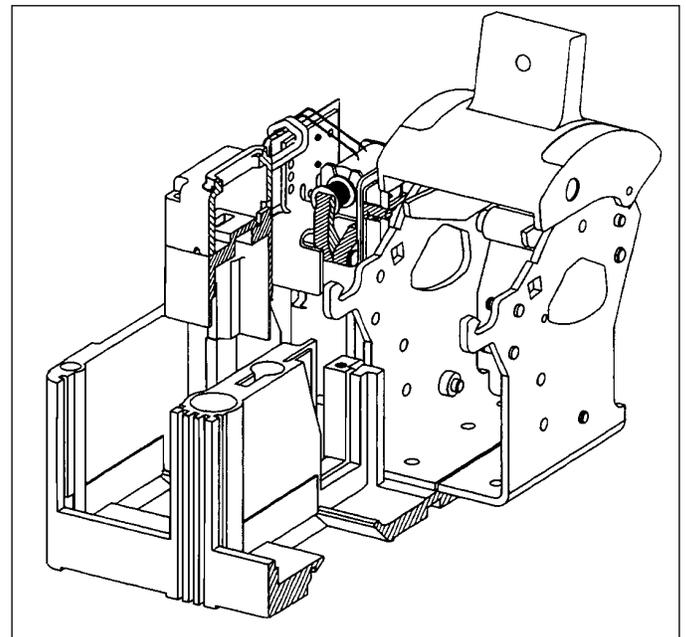

Figure 2-3 UVR Installation
To install UVR, circuit breaker operating mechanism must be in tripped position and the handle is pushed to "ON" position. (Figure 2-3)
2-7. Install UVR as described in following steps (see Figure 2-3):
- b. Push circuit breaker handle towards the ON position and hold while sliding UVR plug-in module into slots in trip unit (Fig. 2-3) until retaining clip snaps into trip unit. For terminal block assemblies, slide terminal block into mounting slot on side of base as plug-in module is being positioned